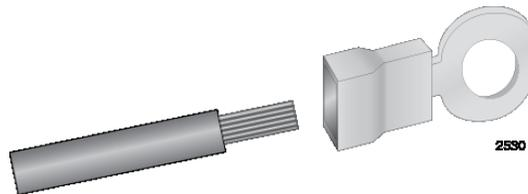

Figure 70. Attaching the Stranded Grounding Wire to the Grounding Terminal
2. Insert the grounding wire into the grounding terminal provided with the power supply and use a crimping tool to secure it to the grounding terminal. See Figure 70,